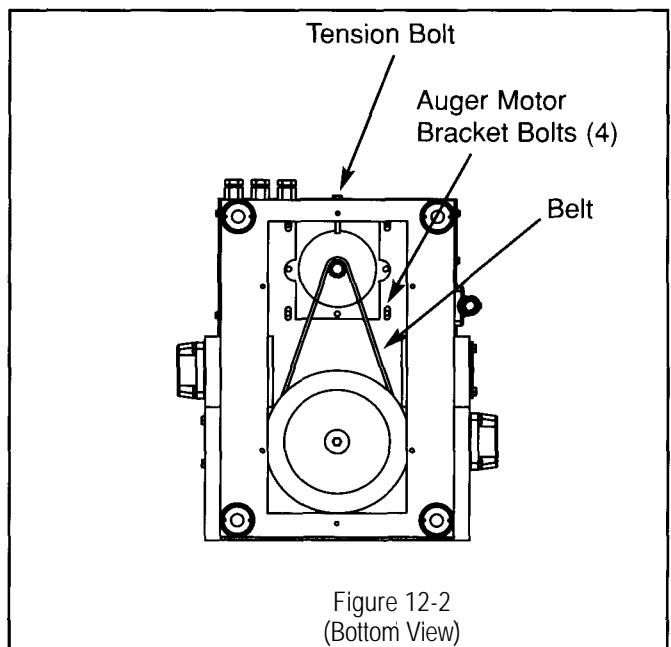

Figure 12-2
3. Loosen the bolts securing the auger motor bracket in place (see figure 12-2).
4. Loosen the tension bolt located at the back of the unit, until there is enough slack to remove the belt (see figure 12-2).
5. Remove the belt (see figure 12-2).